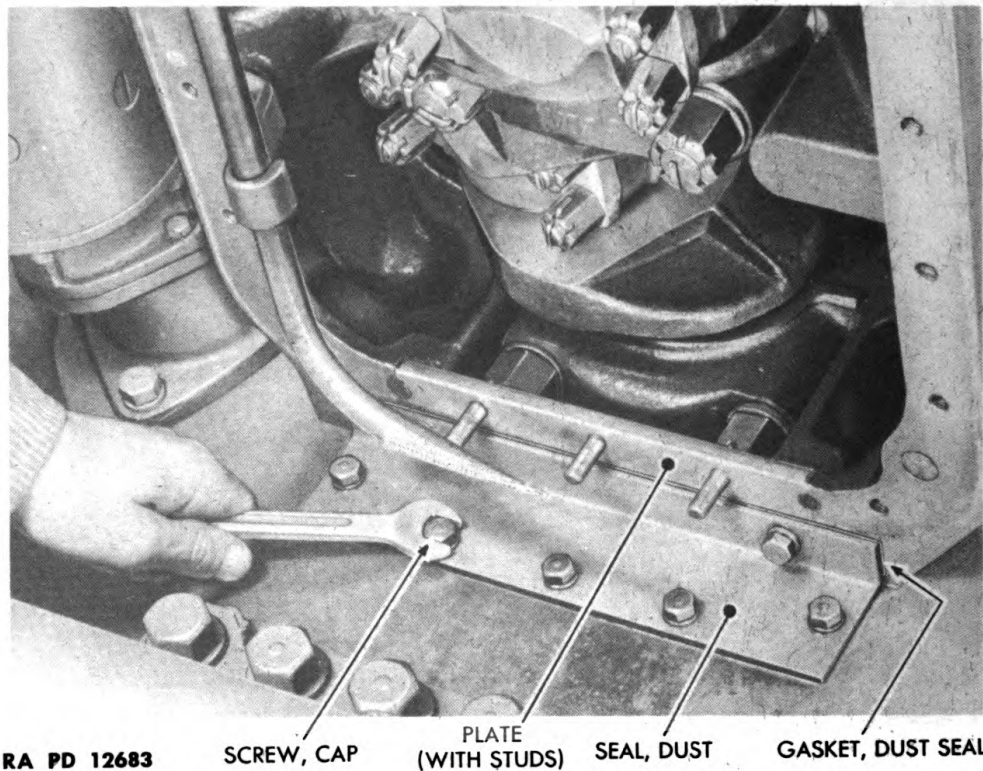

Figure 119—Dust Seal and Plate Removal
(c) To remove No. 7 main bearing it is necessary to remove dust seal and plate (fig. 119). To do this, remove seven cap screws and lock washers which hold dust seal to rear engine support and to plate. Then lift out dust seal gasket and plate with studs.
(2) **INSTALL LOWER HALF OF MAIN BEARING** (figs. 119 and 120).